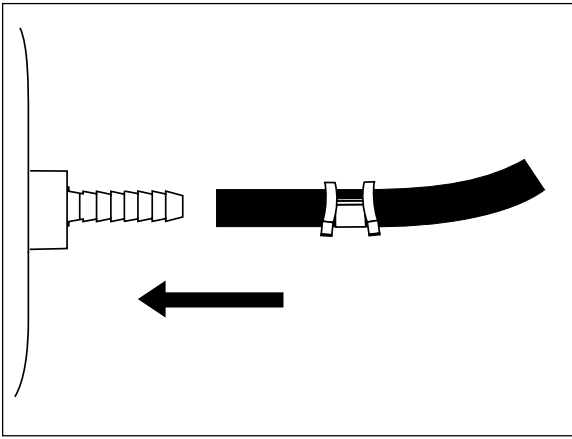

Figure 3
8. Push the air line onto the stem, covering all the barbs (Figure 3).
5. Push the air line onto the stem, covering all the barbed section (Figure 3).
6. With pliers slide the air line clamp forward until it fully covers barbed section (Figure 3).
Stability translates into safety and should be the priority, meaning the driver may need to sacrifice a perfectly level and comfortable ride. Stability issues include roll control, bounce, dive during braking and sponginess (fig. 3). Tuning out these problems usually requires an increase in pressure.